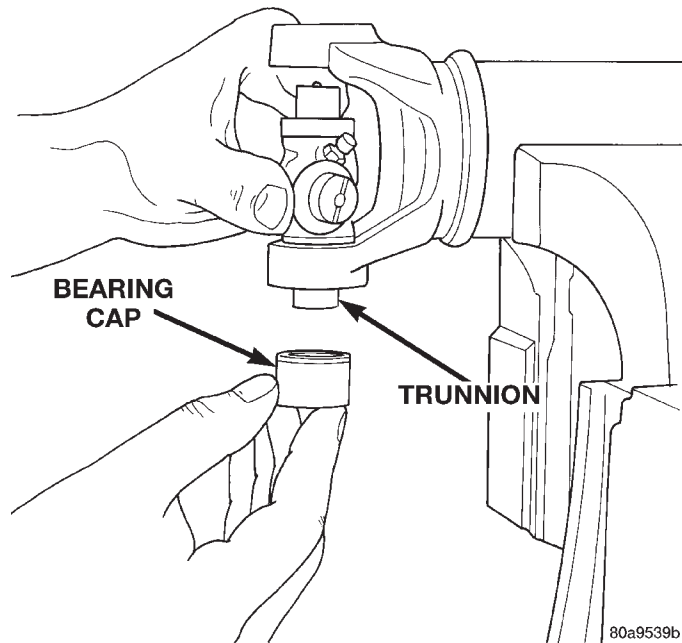

Fig. 18 Install Bearing On Trunnion
(3) Place a bearing cap over the trunnion and align the cap with the yoke bore (Fig. 18). Keep the needle bearings upright in the bearing assembly. A needle bearing lying at the bottom of the cap will prevent proper assembly.
(4) Press the bearing cap into the yoke bore enough to install a snap ring.
(5) Install a snap ring.
(6) Repeat Step 3 and Step 4 to install the opposite bearing cap. If the joint is stiff or binding, strike the yoke with a soft hammer to seat the needle bearings.
(7) Add grease to lube fitting, if equipped.
(8) Install the propeller shaft.